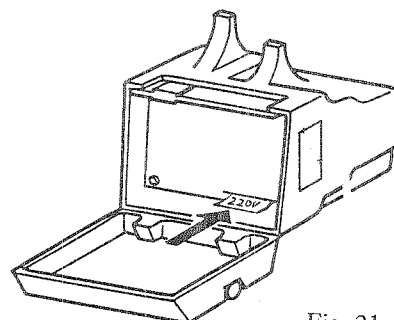

Fig. 21
- ④ Now, change the orientation of the circuit board and push it back into the box so that the marking of the desired voltage is exposed and seen as illustrated. (In Fig. 21, the line voltage is set for 220V.)
- ⑤ Close the PSC box cover.